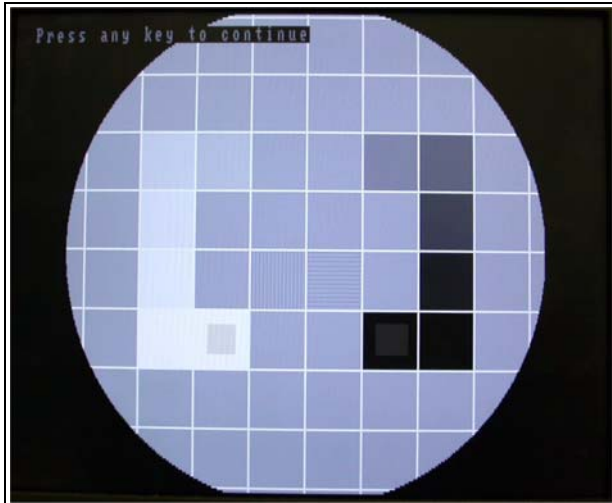

Fig. 6
- If necessary change the value with the "UP" and "DOWN" keys, till the horizontal position of the displayed test pattern is as shown in Fig. 6.
- If necessary change the value with the "UP" and "DOWN" keys, till the vertical position of the displayed test pattern is as shown in Fig. 6.